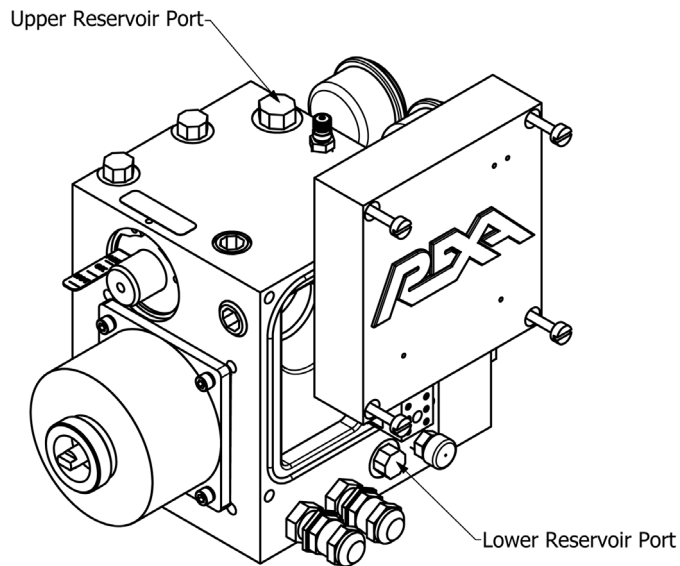

Figure 4.M.3.1 Power Module
5. Disconnect either reservoir plug with the oil drain pan underneath. (Refer to Figure 4.M.3.1.) The reservoir should pull in forcing out oil from the removed port. If the reservoir does not pull in it may be necessary to push it in.